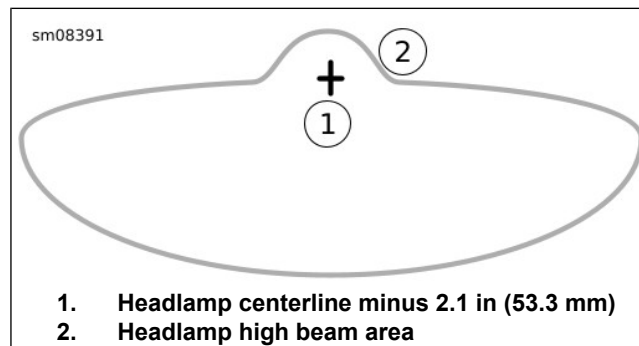

Figure 96. High Beam Light Pattern
3. See Figure 96. Turn the adjuster to adjust light beam hot spot at crossed lines.